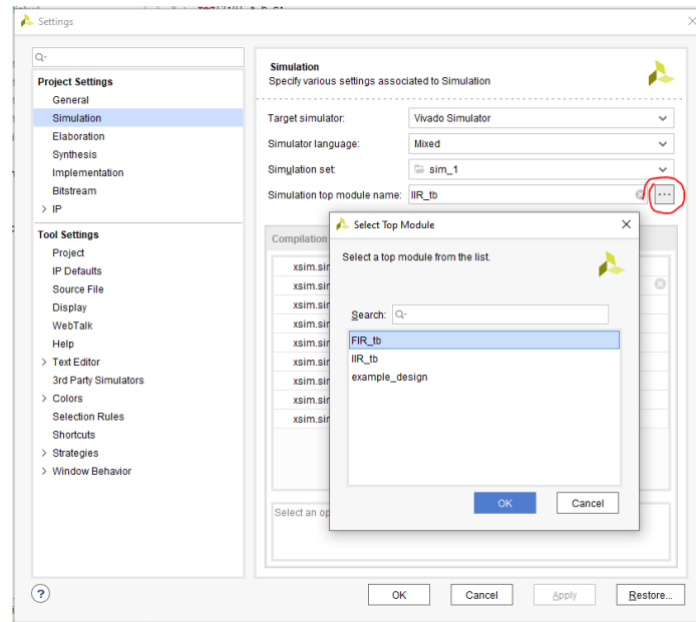

Figure 17 Selecting Top Module
- d) In the Simulation Settings window, please change the simulation top module to “FIR\_tb” as shown in Figure 17.